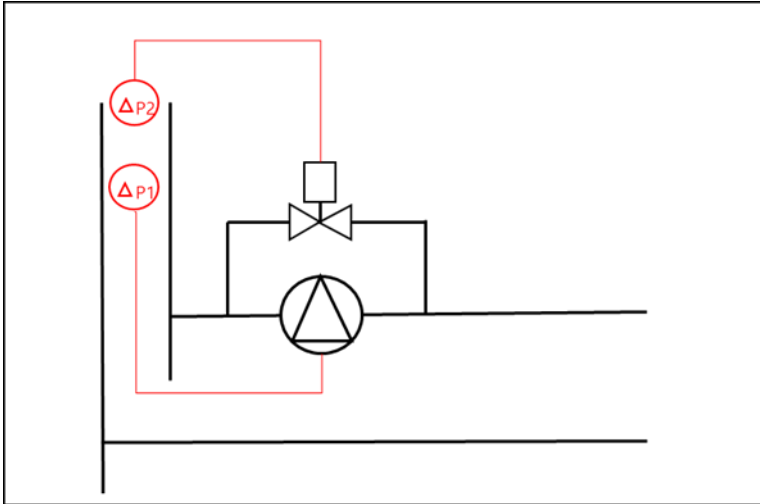

Figure 3: Low Flow Pump Protection Valve
To avoid this condition a “Low Flow Pump Protection Valve” and second  $\Delta P$  sensor are introduced into the system, as a by-pass across the pump and the control sensor respectively, as shown in Figure 3 below.
- Install a Low Flow Pump Protection valve, which should be a Pressure Independent Control Valve, and a secondary  $\Delta P$  sensor close to the pump to avoid any water pulses and potential pipe vibration (See Figure 3).